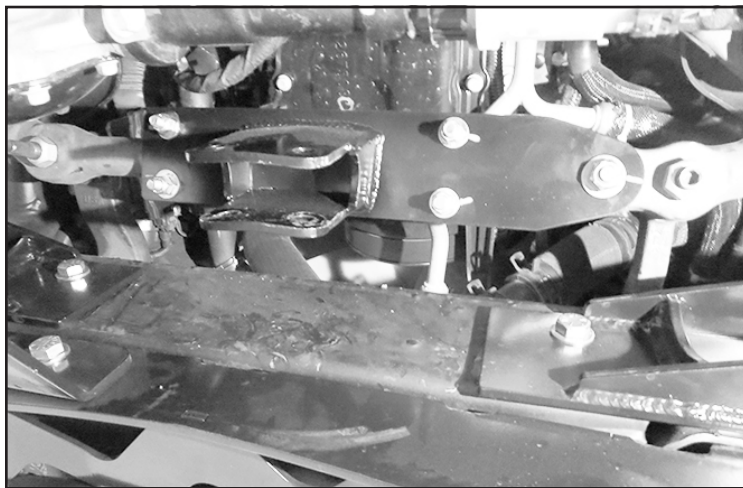

FIGURE 7 - STEP 6
6. Install FT20959 (Center Mount) to the steering center linkage starting with the supplied 1/2" x 2" bolt, nut and washers using the existing hole on the center linkage. Then, install the two FT740u (Ubolts), 3/8" nuts and washers. Torque the 1/2" hardware to 106 ft-lbs and the 3/8" ubolt hardware to 35 ft-lbs. **SEE FIGURE 7**